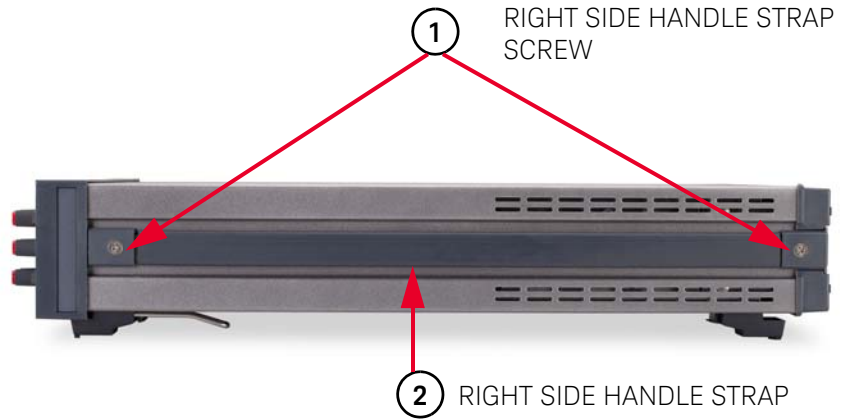
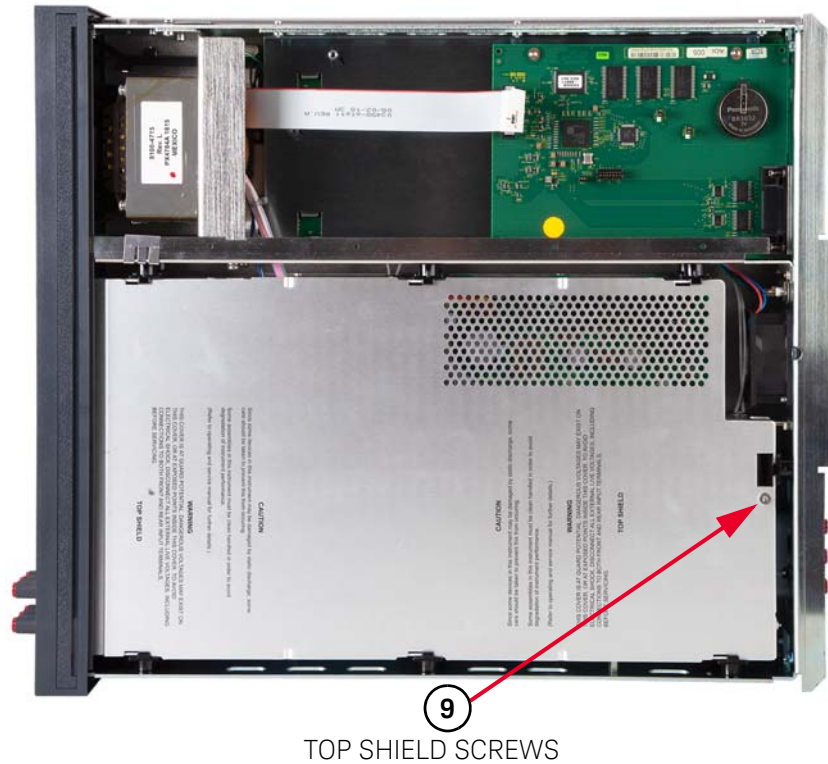

Figure 3-1 Right side handle removal/installation
Figure 3-6 Remove/Install top shield screw
The label numbers in Figure 3-1 to Figure 3-6 show the order of cover removal. Use reverse order for installation.
- 3 Refer to Figure 3-1. Turn the instrument so its right side (as seen from the front) faces you.
- 17** Refer to Figure 3-6. Turn the instrument over so its bottom sits on your workbench.
- 3** Refer to **Figure 3-6**. Turn the instrument over so its bottom sits on your workbench.
- 18 Refer to Figure 3-1. Turn the instrument so its right side faces you.